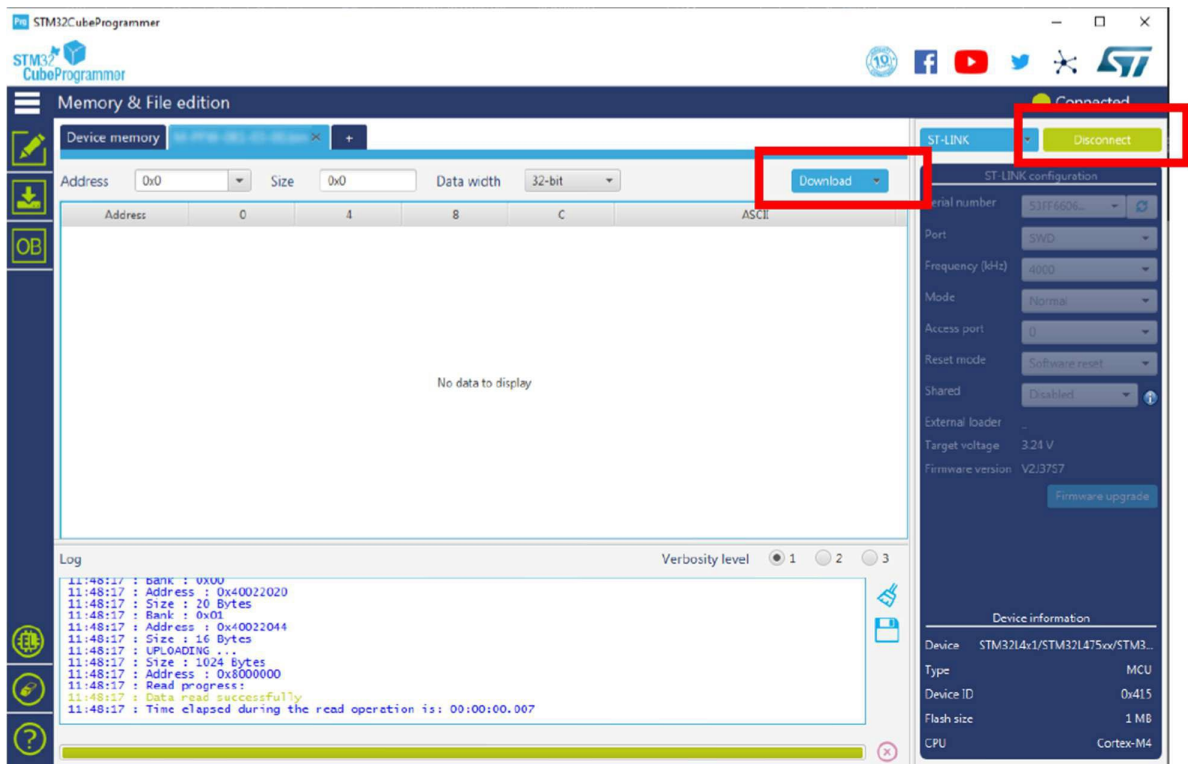

Figure 5: Unit connected and download button.
- Click the “Connect” button and verify that the program is connected to the unit. Refer to Figure 5.